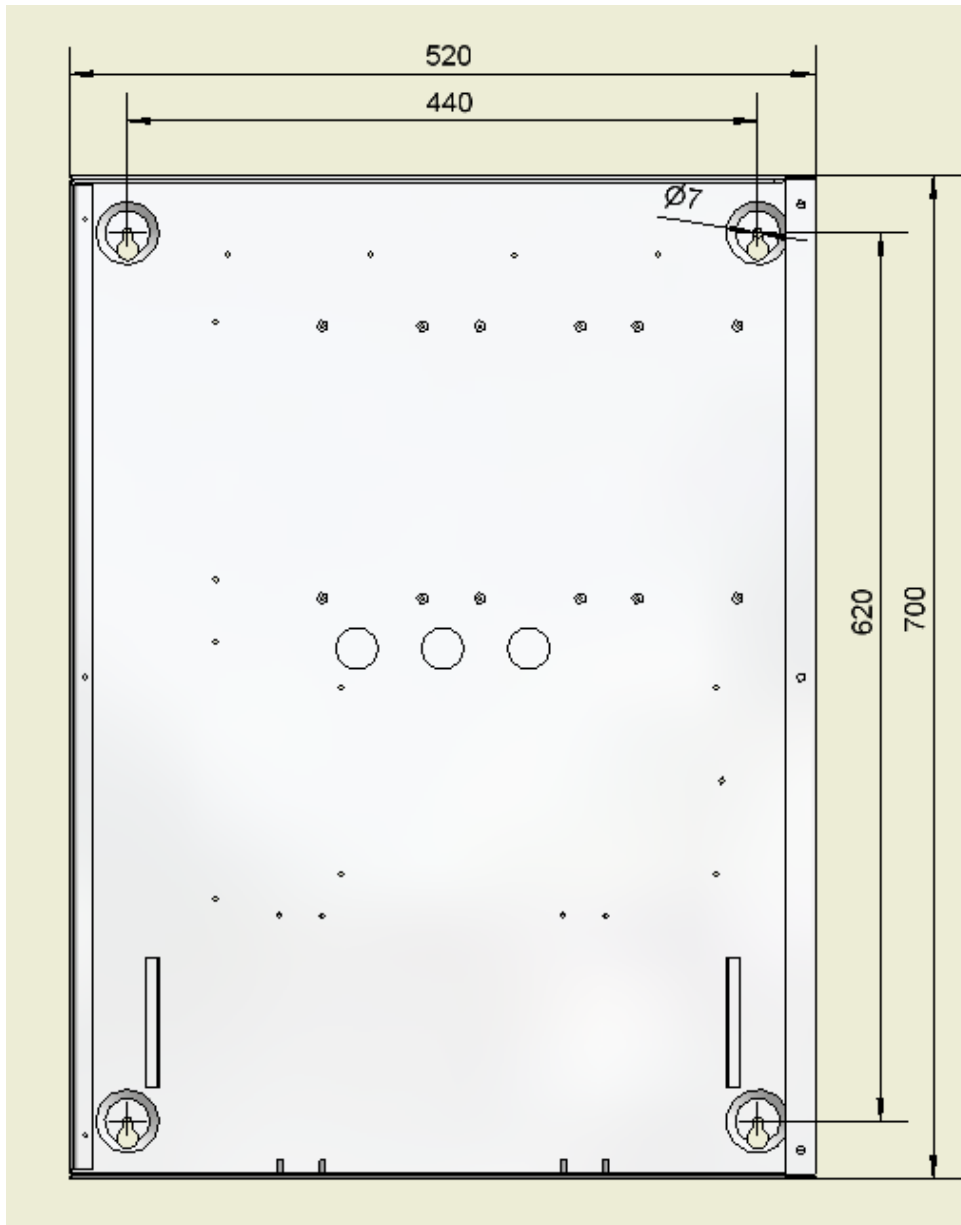

Figure2-1 Mounting holes for BC8002A (in:mm)
3. Mark the location of the four mounting bolts on the wall. (Refer to figure 2-1)